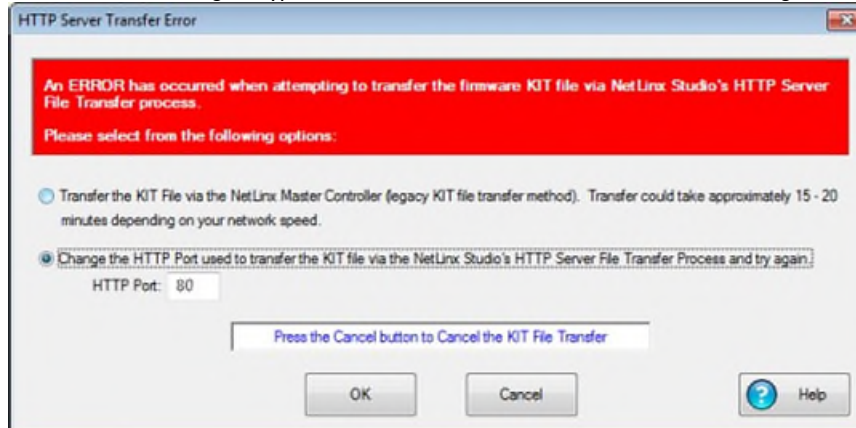

**FIG. 160** NetLinX Studio - Send to NetLinX Device dialog (Progress bars indicating an active firmware file transfer)
7. Click **Send** to initiate the firmware file transfer. The progress of the transfer is indicated in the progress bars (FIG. 160):